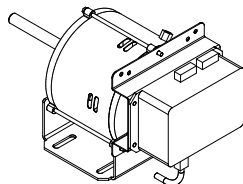

Figure 2
1. Refer to Figure 2, fasten transformer to mounting bracket using four #10 x 1/2 screws provided.